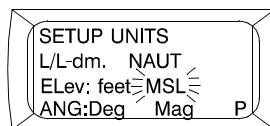

Figure 11. MSL Display
9. Press the up arrow key (figure 1, item 2) or down arrow key (figure 1, item 3) until MSL is flashing (figure 11).